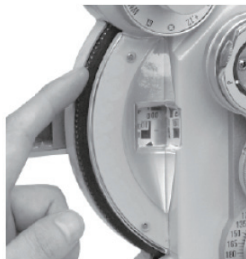

Fig.11
To show the spherical power only (shortened as "S"), turn auxiliary lens knob ②① to O position, then turn cylindrical lens knob ②⑦ until "00" is shown on cylindrical power scale ②⑤. Then turn weak spherical power dial ②③, value S is displayed in spherical power scale ②④, within range from -19.00D~+16.75D, increasing or decreasing progressively in 0.25D (Fig.11).